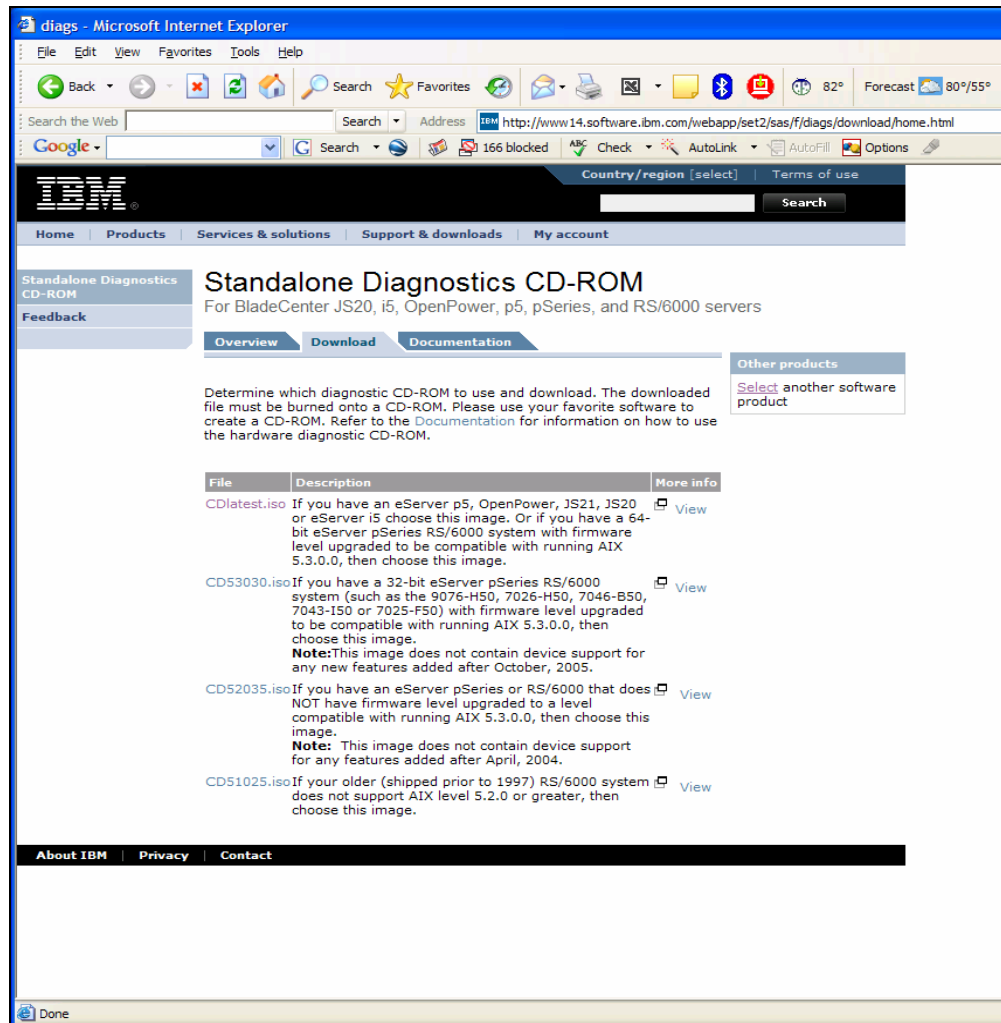

Figure 1. Downloading the latest System p diagnostics file
1. Go to the Web site listed below. (See Figure 1.)